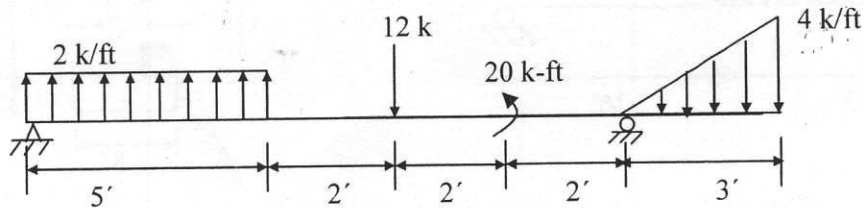

Fig.3
3. Using singularity function, determine the expressions of shear force and bending moment for the beam loaded as shown in Fig.3. Hence draw shear force and bending moment diagram for the beam.